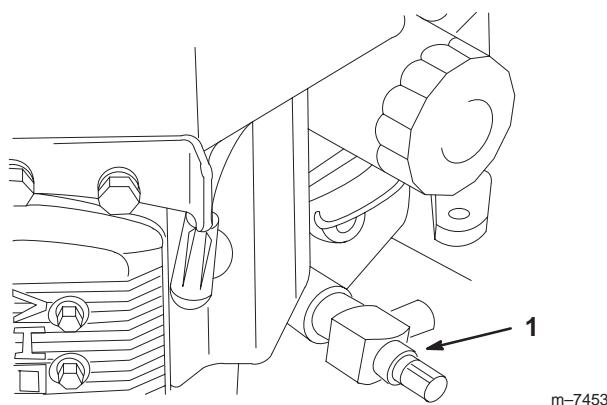

Figure 31
6. Place a pan below the drain hose. Rotate oil drain valve to allow oil to drain (Fig. 31).
8. Remove the drain hose (Fig. 31).